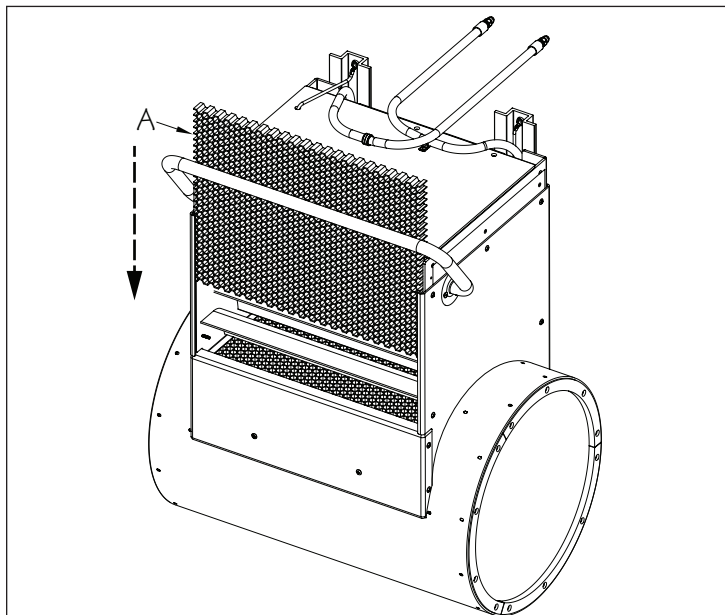

Fig. 5
3. Re-install the Vertical Grill (A) (Fig. 5).